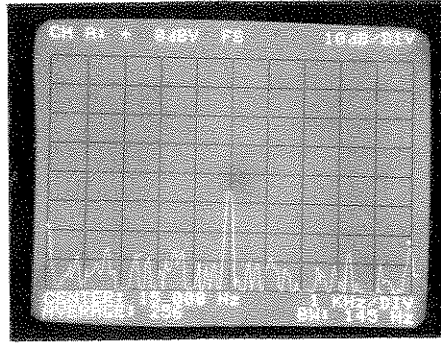

Figure 3-20. TIME Averaged Signals.
h. Set the TIME average button to ON and trigger properly. When the average is completed, notice that a signal-to-noise ratio enhancement has taken place (see Figure 3-20).